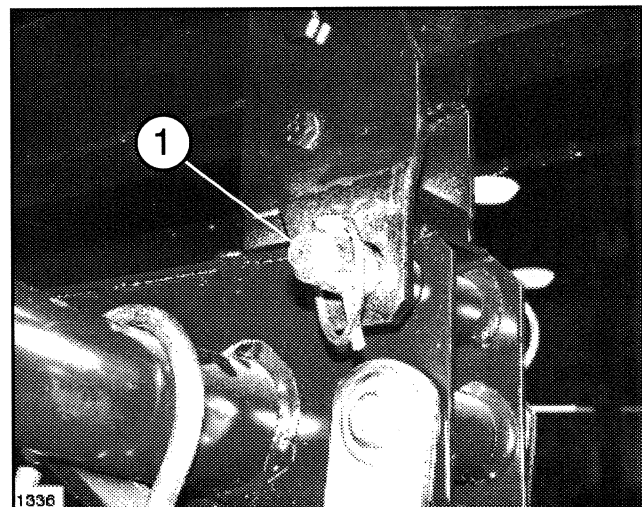

Fig 2
G. Remove Rear Securing Pins, shown in Figure 2.